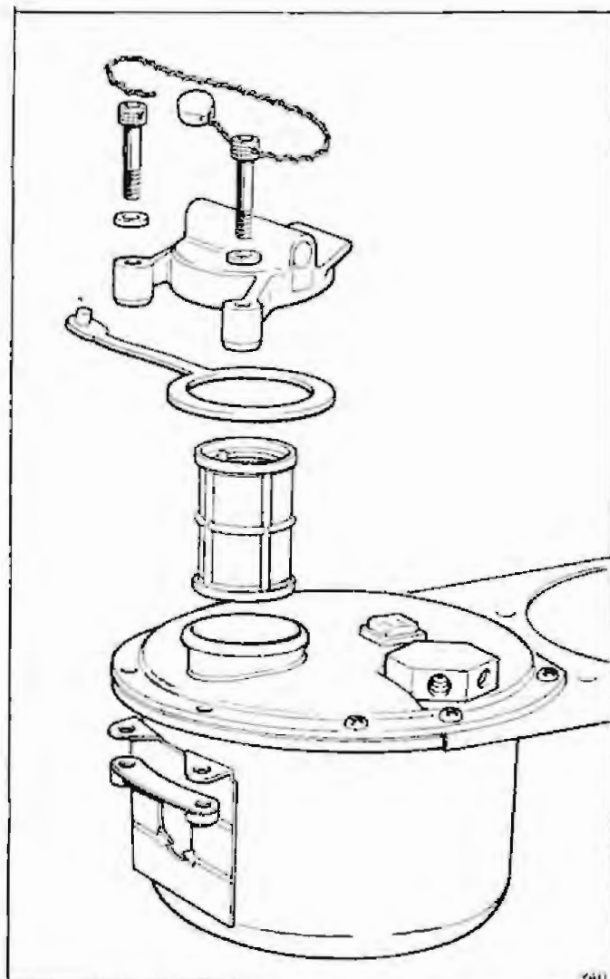

Fig. 5 Later type filler cap, sealing ring, and fluid baffle
- 4 Fit the fluid baffles (see fig. 5) supplied in the fitting kit in place of the discarded fluid filters.
- 5 Fit the replacement sealing washers and filler caps (see fig. 5). Firmly secure the new filler caps using the socket capscrews and locking plates provided.